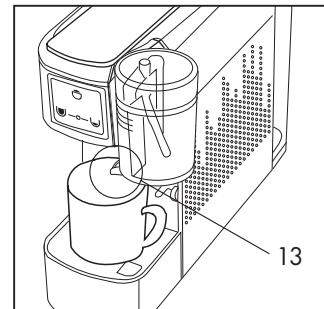

Fig. 12
- Close the support (11) and place the cup directly on the grid. Check that the hopper of the milk beaker (13) is in the cup. (**Fig. 12**)